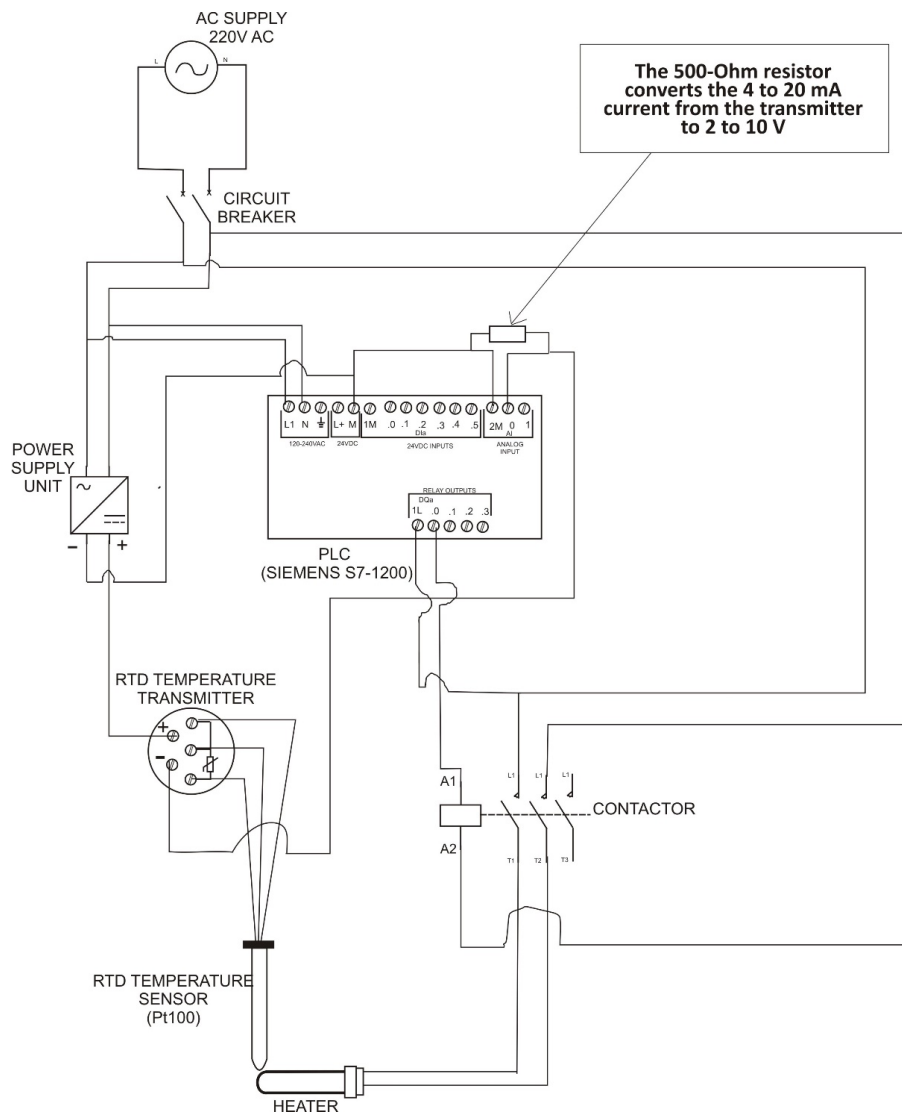

Figure 12.45 – A wiring diagram showing the wiring of a temperature control system using a PLC, a temperature sensor, and a 4 to 20 mA transmitter
1. Ensure all the connections in the wiring diagram (*Figure 12.45*) have been set up correctly. Switch on the circuit breaker to supply power to the devices. Also, ensure PLCSIM (simulator) is not running.